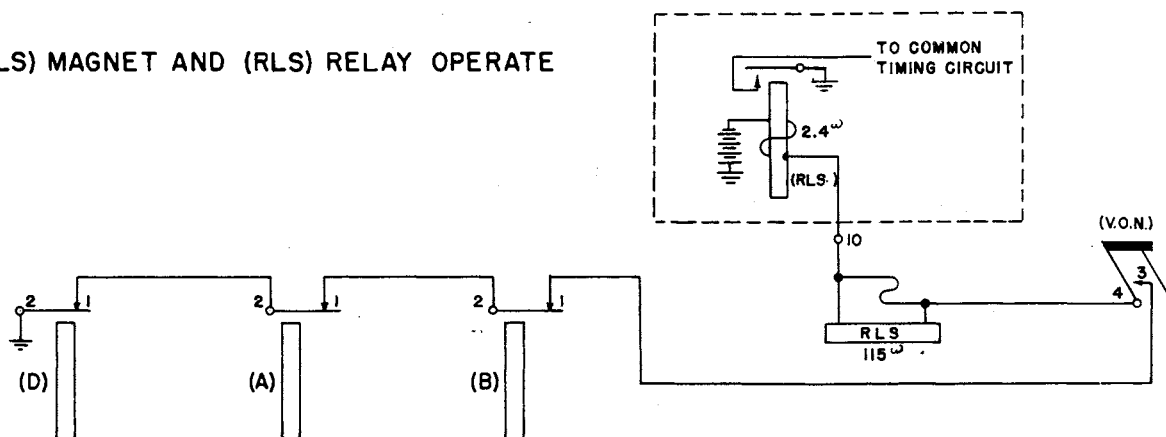

FIG. 11
The release (RLS) magnet and release (RLS) alarm relay operates (Fig. 11) from a ground on the 2-1 contacts of (D) relay, 2-1 contacts of (A) relay, 2-1 contacts of (B) relay, 3-4 contacts of the vertical off normal (VON) springs, 115 ohm inductive and non-inductive windings of the release (RLS) magnet, terminal 10 of the switch jack, 2.4 ohm winding of release (RLS) alarm relay to battery.